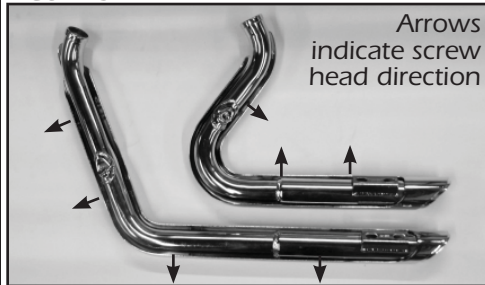

FIGURE 4
4. Install circlips and flanges from the stock system onto both new head pipes (Figure 4).